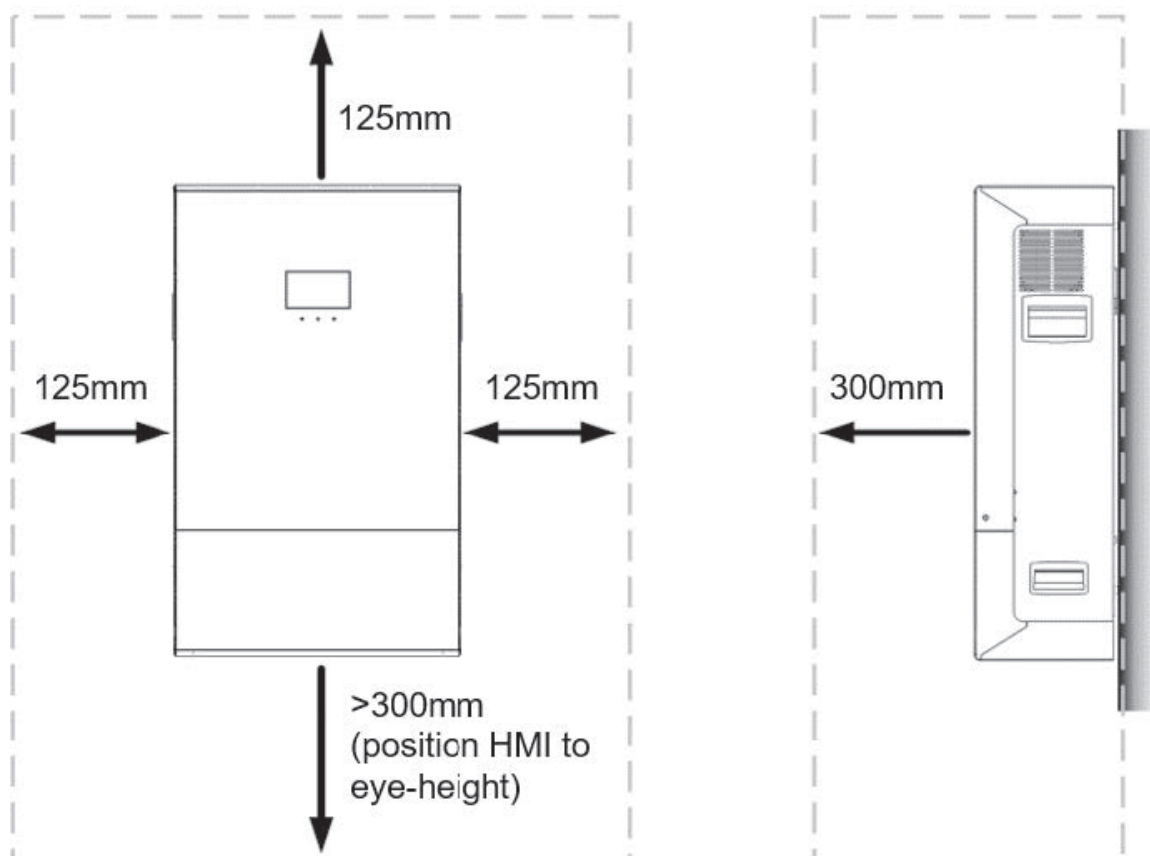

Figure 4. Minimum clearance distances around a unit or between units.
The minimum clearance around a unit (or between units) is shown Figure 4.
- The minimum clearances are shown in Figure 4. A minimum clearance of 125 mm on each side, the top, and 300 mm from the front must adhered to. If there is more than one unit, the horizontal distance between them can be 125 mm.